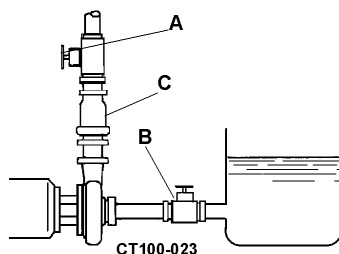

Figure 1 - Pump Below Supply
1. Fill supply tank with liquid; open supply line valve (suction) (Figure 1, item B).
2. Vent any air trapped in supply line or casing by opening the discharge valve. (Figure 1, item A).